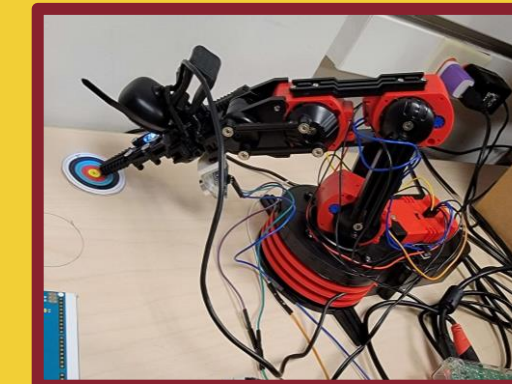

Figure 1. Robotic Arm
1. Prepare robotic arm for use and testing, attach an ultrasonic sensor for distance and wire all to the raspberry pi. (Fig. 1)